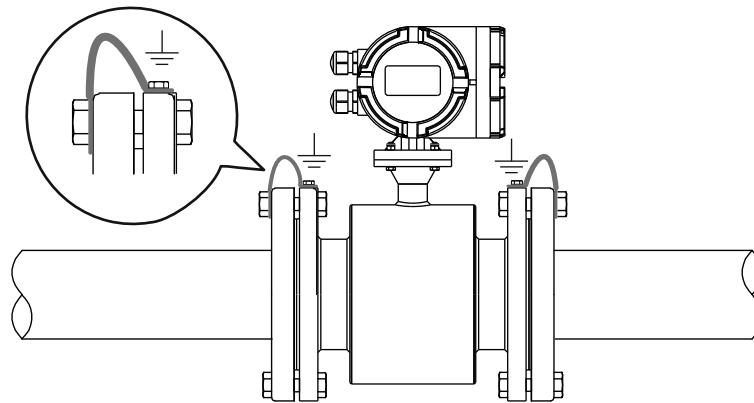

Fig.18A Sensor equipotentiality
- With conductive pipes, potential equalization is made by connecting sensor and the adjoining pipes as shown in figure. The bolt connection for flanges can not be used instead of the electric connection, it must have an additional electric connection as shown in **Fig.18A**.